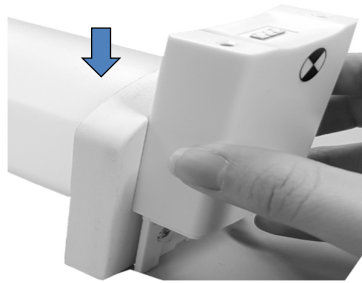
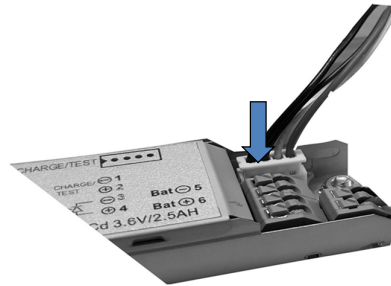

Figure 4
Figure 5
5. Locate LED module by sliding it from top (as in *Figure 4*) and connect the terminal to power pack module (*Figure 5*). (only applicable for emergency model)